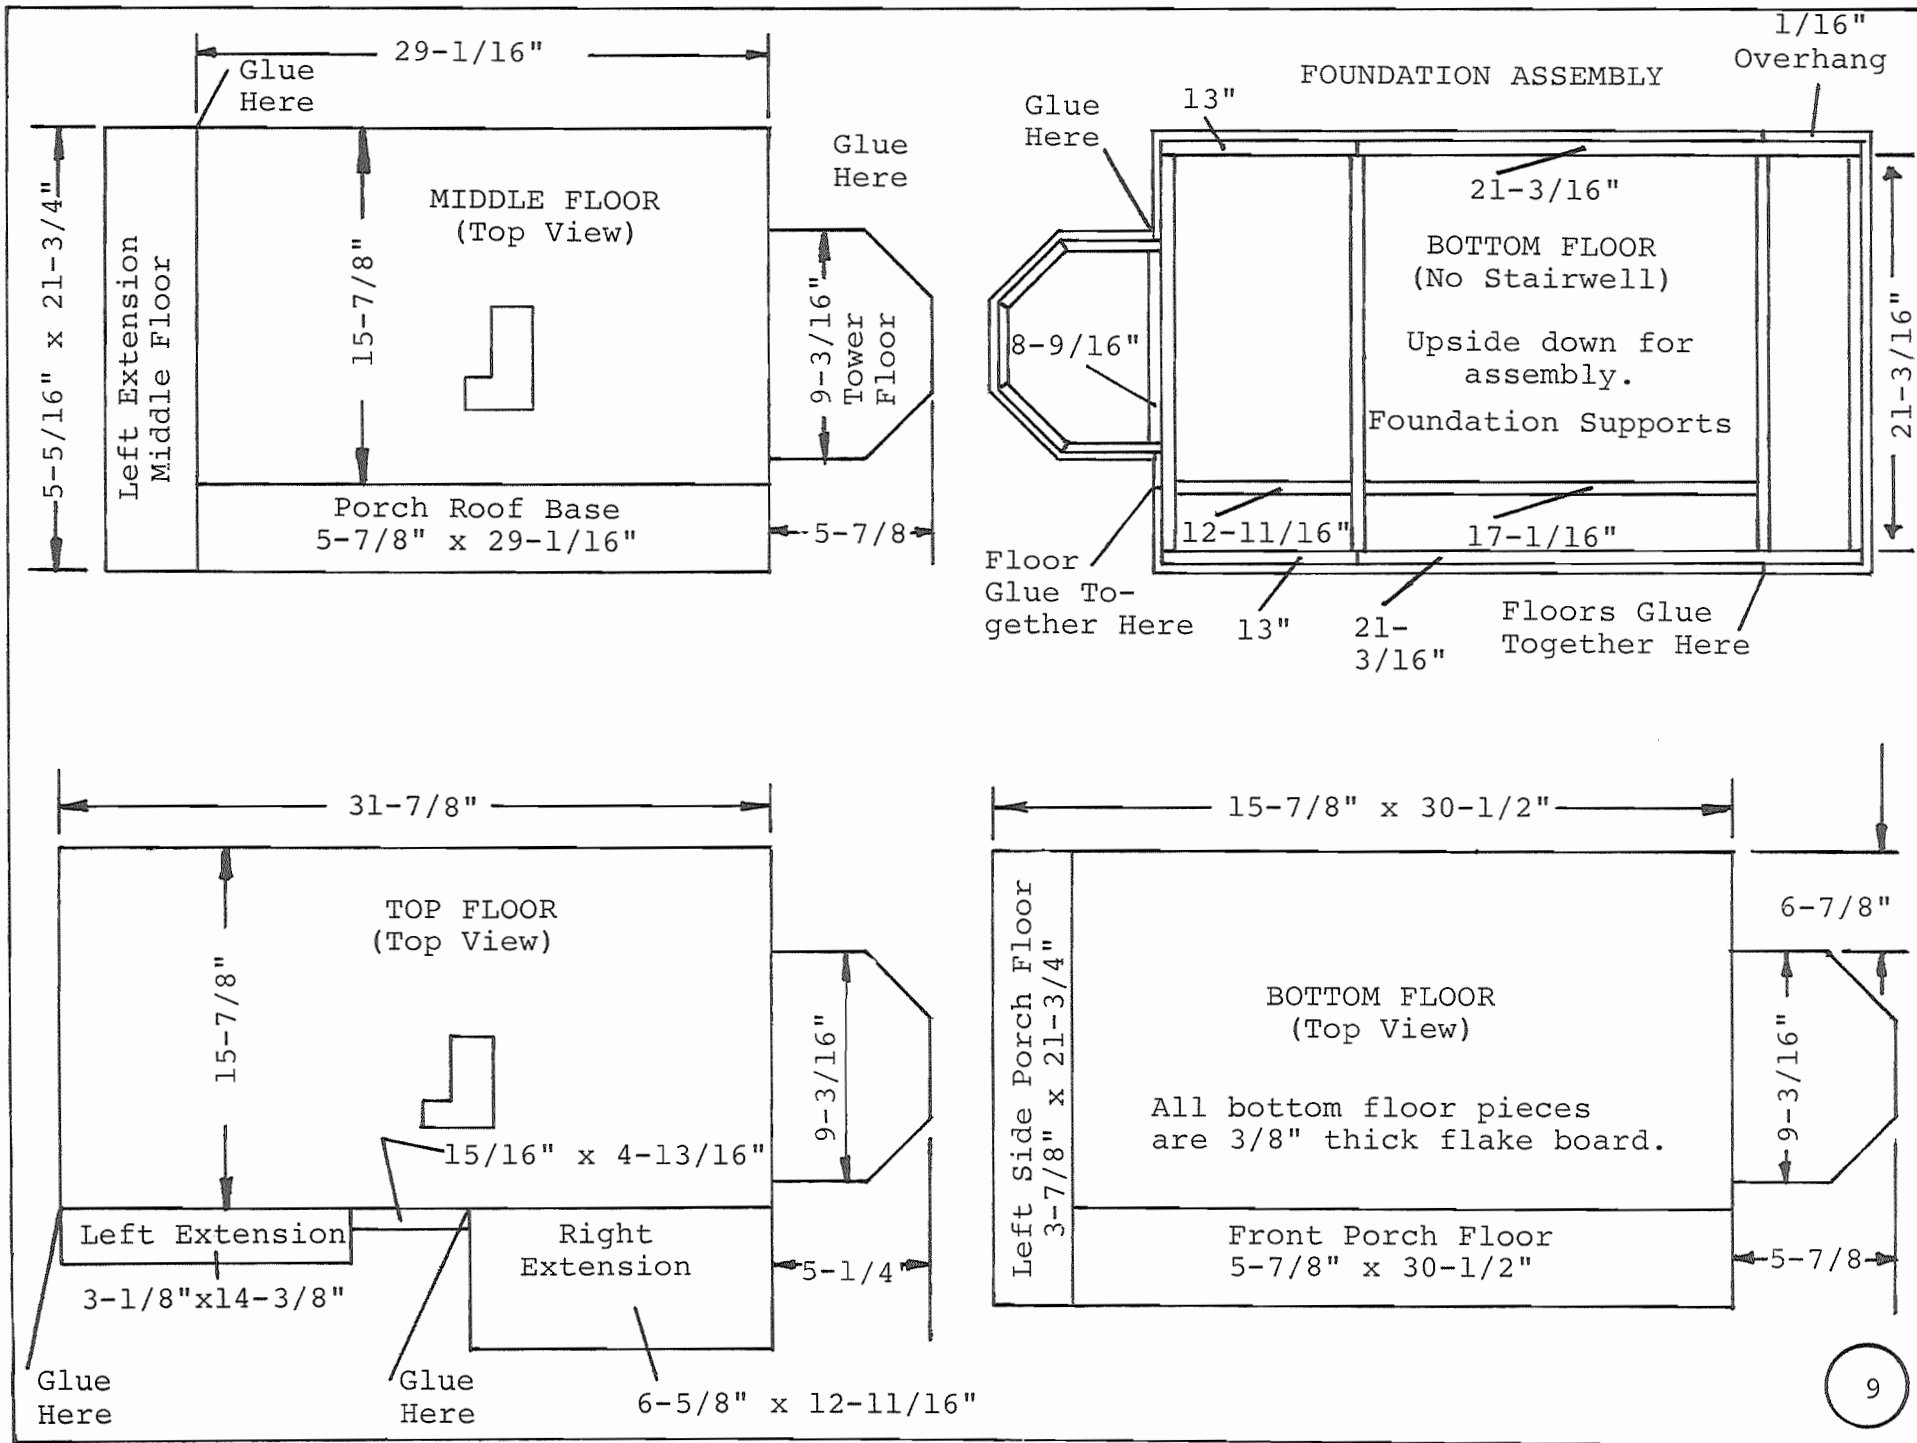

FIGURE 3
8. While the wall sections are drying, you should assemble the bottom floor and foundation. Figure 3 on the next page illustrates how the pieces fit together.
Be sure to position the bottom floor upside down for assembling the foundation. See Figure 3. Dry-fit the foundation pieces around the perimeter as shown in Figure 3.